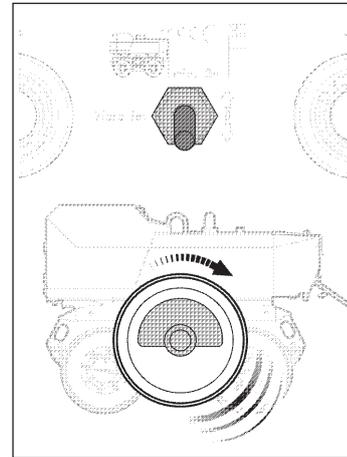

Fig. SE27 Vibrate backwards
- Vibrate backwards (Fig. SE27)